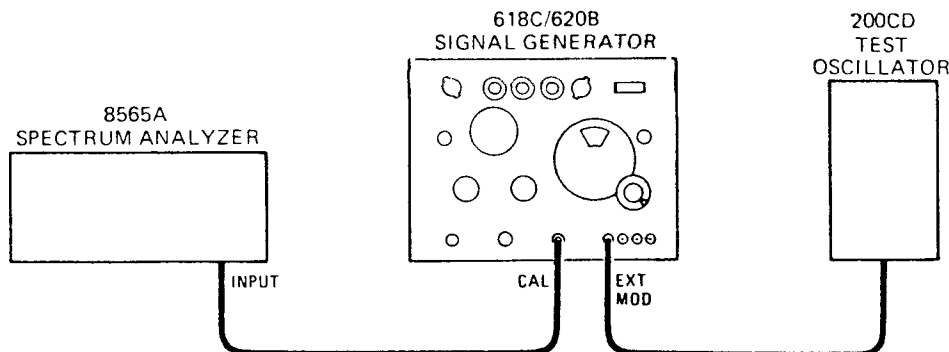

Figure 5-5. Setup for Testing Internal and External FM
a. Connect Signal Generator in test setup shown in Figure 5-5 without the oscillator in the setup.
a. Connect Signal Generator in test setup shown in Figure 5-5.